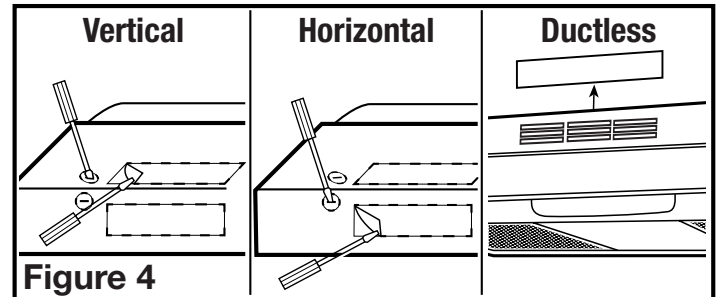

Figure 4
- 2a. **Horizontal or Vertical** - Remove the appropriate square knockout by inserting a screw driver under the edge and break the tabs holding it in place. Peel back with pliers (**Figure 4**).
- 2b. **Ductless** - Lift up and remove the hood's vent insert located behind the grill, exposing the front air slots. Do not use a screwdriver or any other object that could scratch the hood (**Figure 4**).
3. Determine where the electrical service will enter the hood and remove the appropriate electrical knockout by inserting a screw driver into the slot and rocking back and forth until the knockout comes loose (**Figure 4**).
**NOTE: FOR DUCTLESS INSTALLATIONS ONLY,** if you did not already do so in the earlier steps, remove the vent insert from behind the grill on the outside of the hood (Figure 4).